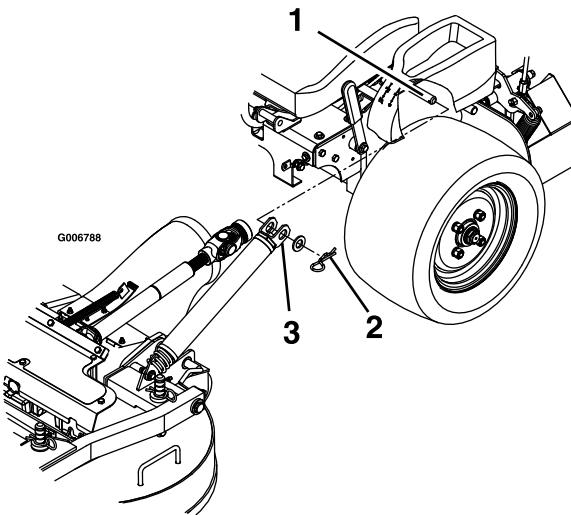

Figure 70
4. Remove the hairpin cotters and washers at the top of the deck-lift-assist spring on each side of the machine (Figure 70).
10. Install the springs onto the spring anchor pins under the left and right consoles and secure it with a washer and hairpin cotter (Figure 70).